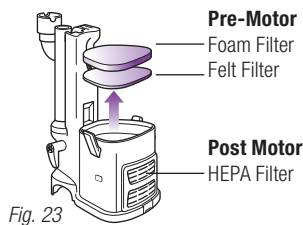

Fig. 23
- Pull the 2 filters out from the top of the motor base. **(Fig. 23)**